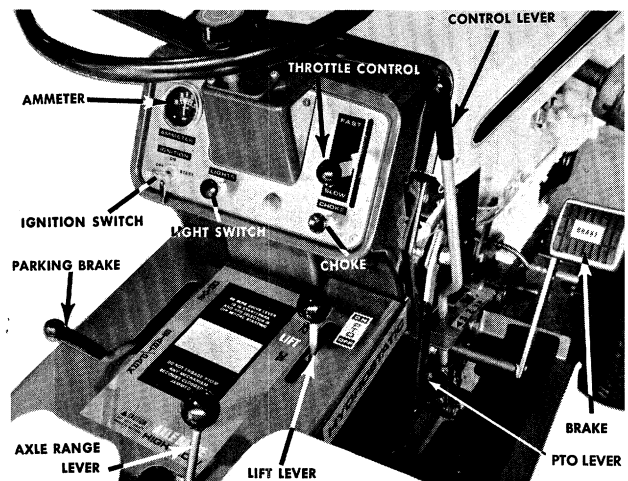

FIGURE 10. CONTROLS
Turn the key to the right to engage the starting motor on the engine. To shut off the engine turn the key to the left to the OFF position. See Figure 10.
The throttle is used to regulate the engine speed. Move the throttle control up to FAST position and down to the SLOW position. See Figure 10.
When the engine is hot the choke may not be needed to start. See Figure 10.
The Lift Lever is located on the right hand side of the tractor and is used to raise and lower the attachments. The lift is hydraulic and will only operate when the engine is running, however, you can move the lift lever to the DOWN position and lower any attachment if the engine is not running. See Figure 10.
The rear PTO can be shut off while the engine is running by moving the PTO lever, located on the right hand side of the tractor, into the OFF position. See Figures 10 and 14.
Pull the light switch out to turn on the headlights. See Figure 10.
4. Place the Parking Brake in the START/PARK position. See Figure 10.
5. Be sure the Control Lever is in the NEUTRAL (N) position. See Figure 10.